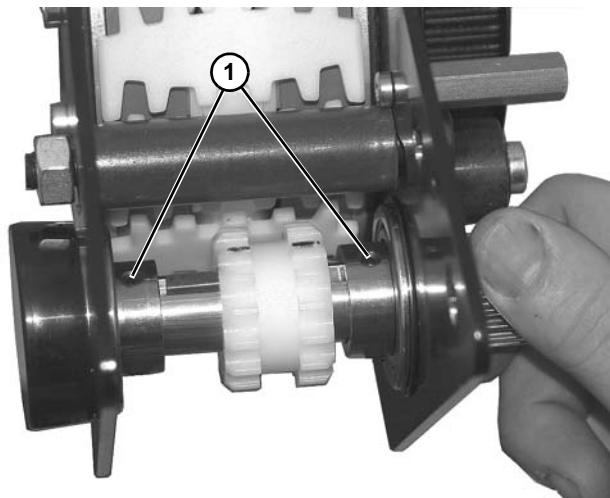

Figure 155
2. Secure drive shaft onto bearings with two set screws (**Figure 155, item 1**).